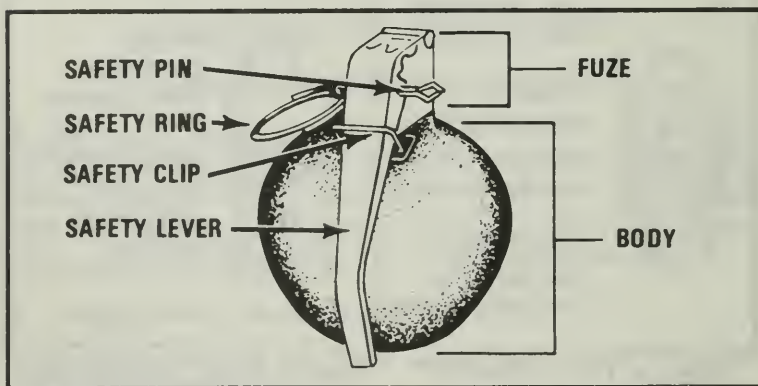

Figure 181. Safety check.
2. Inspect the grenade for defects (Figure 181).